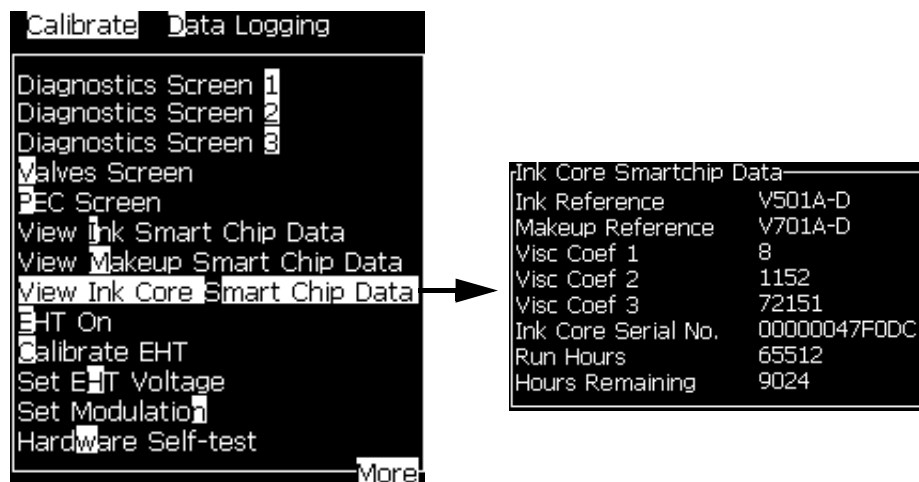

Figure 4-17: View Ink Core Smart Chip Data
- 1 Select *View Ink Core Smart Chip Data* from *Calibrate* menu (Figure 4-17) to view the ink core run hours. The ink core run hours is reset only after ink core change.